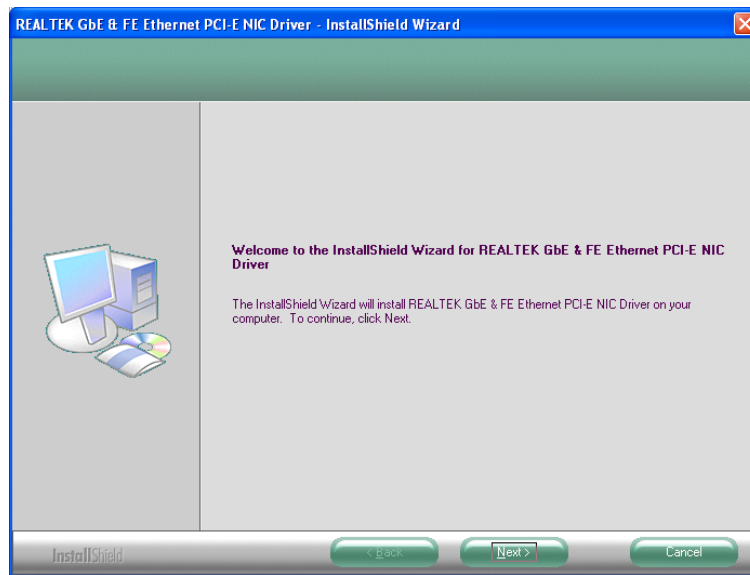

Figure 6-17: LAN Driver Welcome Screen
Step 3: The **Welcome** screen in Figure 6-17 appears.